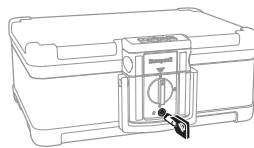

Figure 4.3
3. You may remove the key (Figure 4.3). Remove the Key.